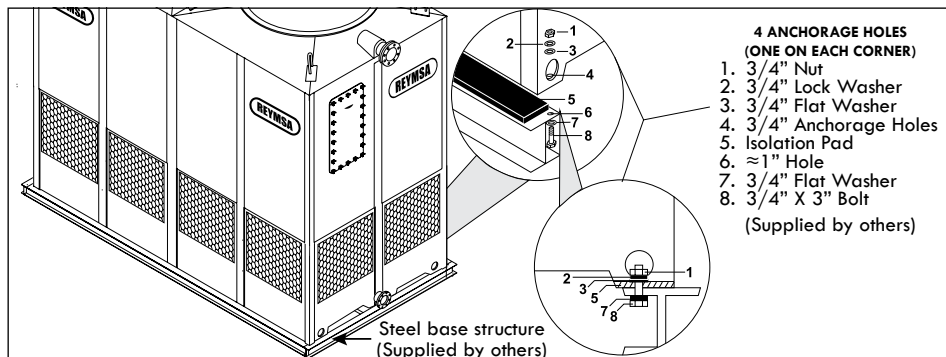

Figure A-39: Typical anchorage for a Two Fan Tower
- I. Place the Tower (unitized body & basin) on top of the isolation pad and the base structure; Secure it with the galvanized steel nut and bolt sets (supplied by others) as shown on Figure A-39.